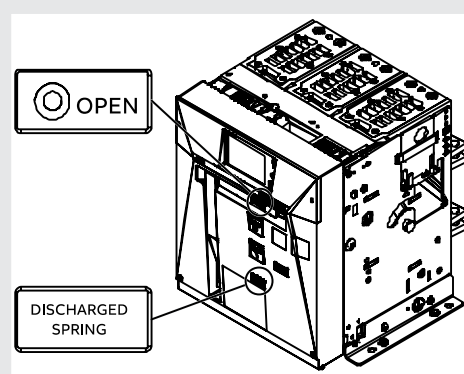

Figure 58
1. Make sure that the circuit-breaker is open. The “O - OPEN” open/closed indicator indicates opening. Check that the springs are discharged. The “DISCHARGED SPRING - white colour” spring indicator indicates that the springs are discharged, as illustrated in Figure 58.